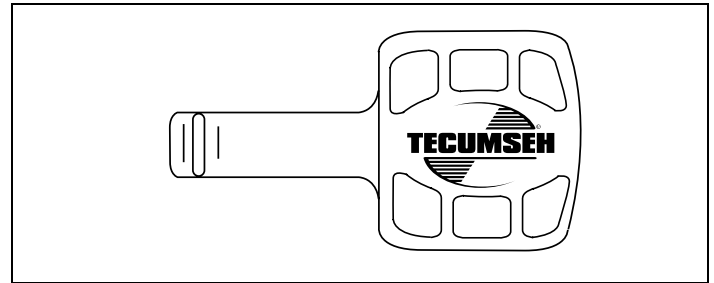

Figure 10. Ignition Key
1. Be sure ignition switch on engine or equipment is in "ON", "RUN" or "START" position. See Figures 10, 11 and 12.
Ignition key, if present (see equipment manufacturer's instructions), is inserted into ignition key slot in carburetor cover. DO NOT turn ignition key. Be sure ignition key snaps into place. See Figures 10 and 11.